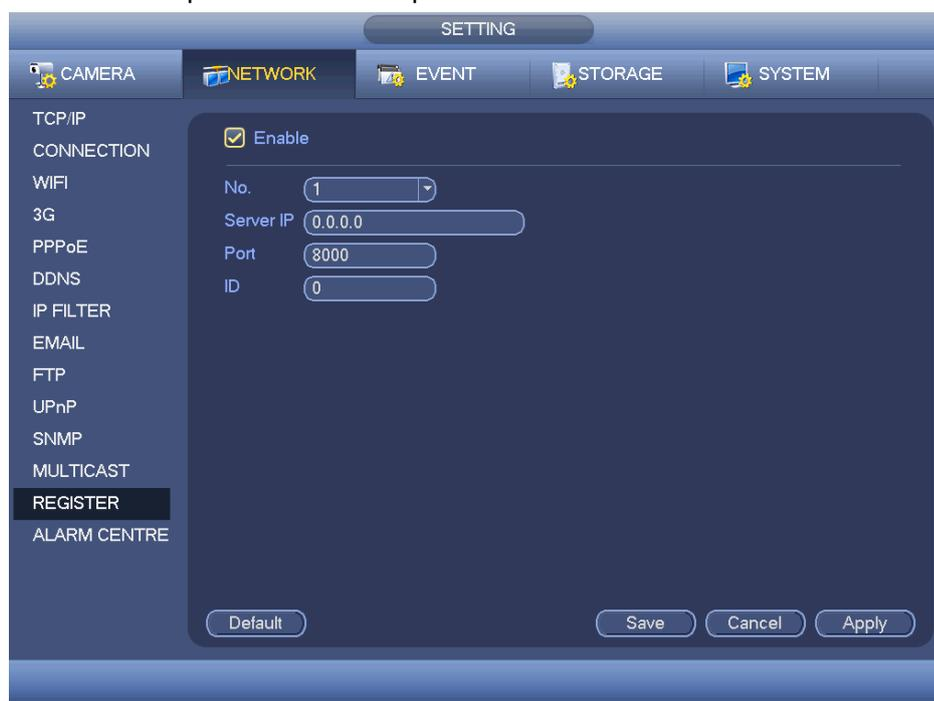

Figure 4-78
1) The setup interface is shown as in Figure 4-78.
3) Now you can add device. Please do not input default port number such as the TCP port in the mapping port number. The device ID here shall be the same with the ID you input in Figure 4-78. Click Add button to complete the setup.